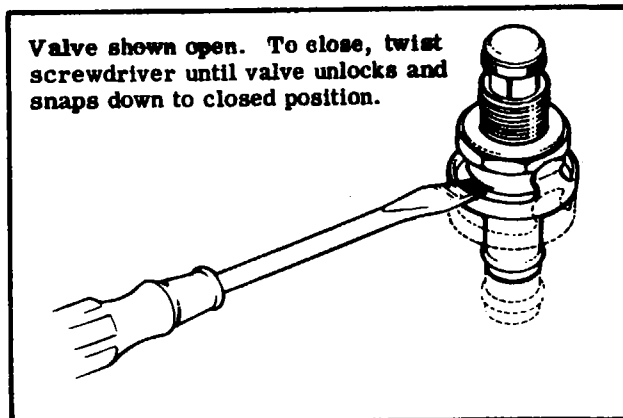

Figure 2-2A. Quick-Drain Valve
- After oil has drained, close quick-drain valve as shown in figure 2-2A and remove hose or reinstall and safety oil drain plug.